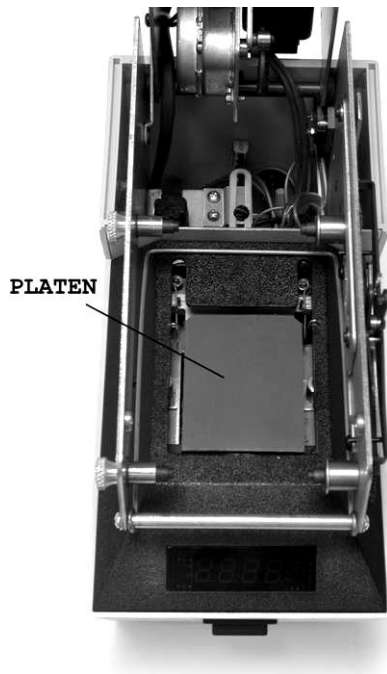

Figure 10
3. Lift the printing platen assembly up and out of the frame. (Fig. 10)